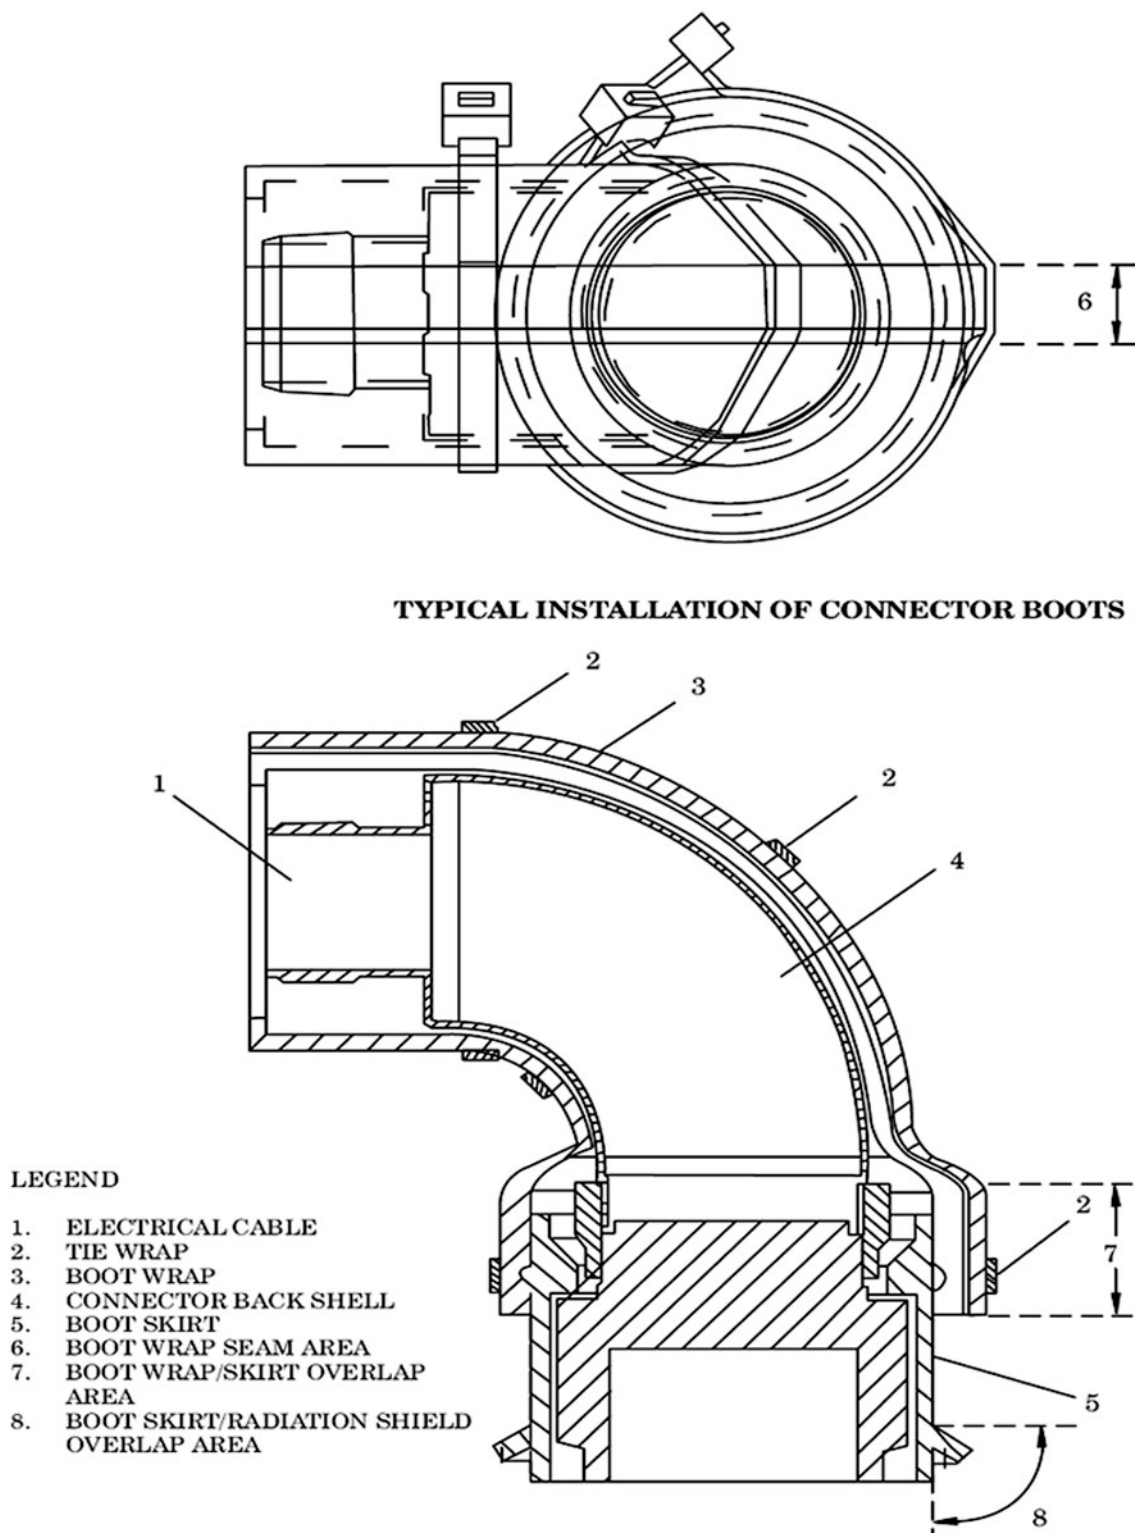

Figure 4-17. Typical elastomer connector shields.
The elastomer connector shield (fig. 4-17, item 3) looks like rubber boots installed over the cable connectors, but in reality, they consist of a special material to protect the connectors from radiation effects. Any damage such as nicks, gouges, cuts, or abrasions degrade the effectiveness of the elastomer connector shield and must be repaired. The makeup of the elastomer connector shield material will at times secrete a white powdery looking substance.